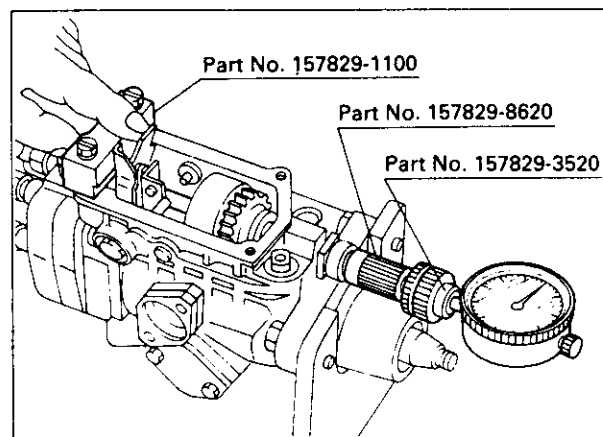

Fig. 18
(3) Install the block gauge (Part No. 157829-1100) as shown in Fig. 18. Insert the pin of the plunger lift stroke measuring device (Part No. 157829-3520) into the measuring device shaft, already fixed in step b-(2). Secure the dial using the nut. To set the dial's zero point, slightly push the dial so that the dial reads between 2 to 3 mm (the tip of the pin touches the rear side of the closing plug.) Ensure the governor sleeve is pushed toward the flyweight side.